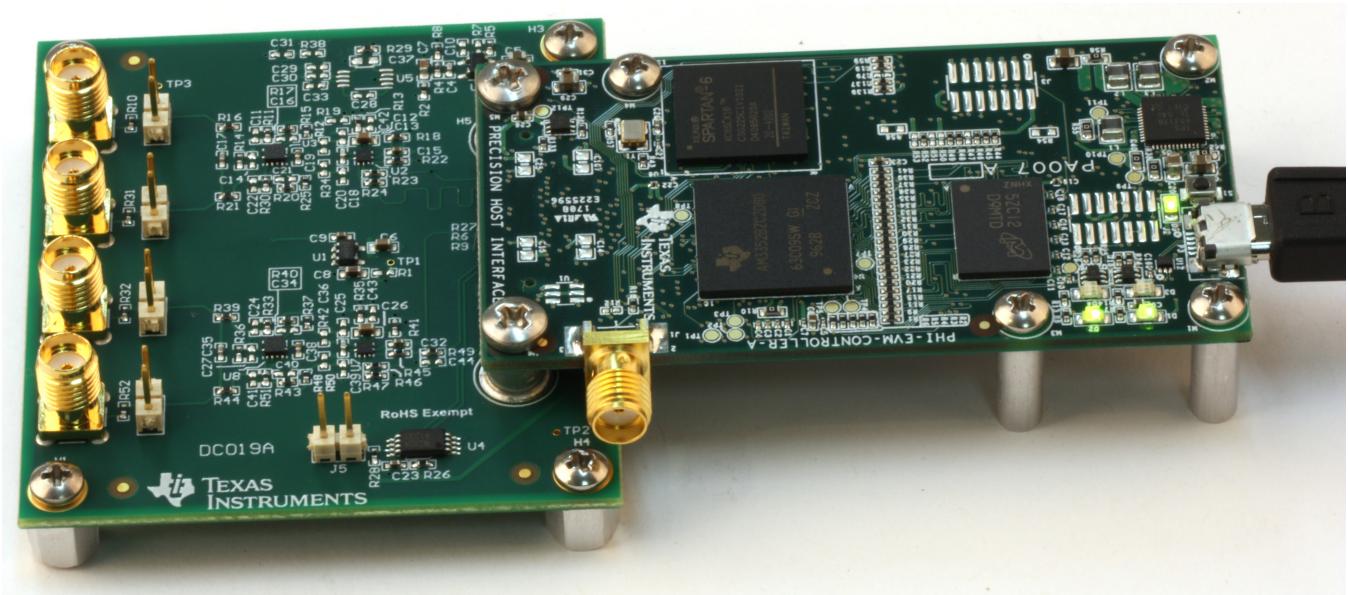

Figure 7. EVM-PDK Hardware Setup and LED Indicators
1. Connect the device EVM to the PHI board. Install the two screws as indicated in Figure 7.